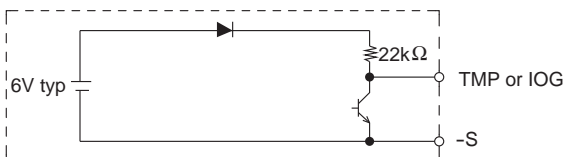

Fig.4.1 TMP, IOG circuit
- When overheat is detected, thermal detection signal (TMP) turns "L" from "H". TMP circuit is designed as shown in Fig.4.1, and specification is shown as in Table 4.1.
- By using the inverter operation monitor (IOG), malfunction of the inverter can be monitored. When inverter operation is in following mode or , IOG signal turns "H" from "L" within 1 second. IOG circuit is designed as shown in Fig.4.1 and specification is shown in Table 4.1.